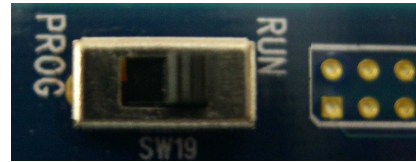

Figure 3.2 Set SW19 to RUN position for JTAG programming and normal operation
- ✓ Set the Switch (SW19) to “**RUN**” position, as shown in Figure 3.2.